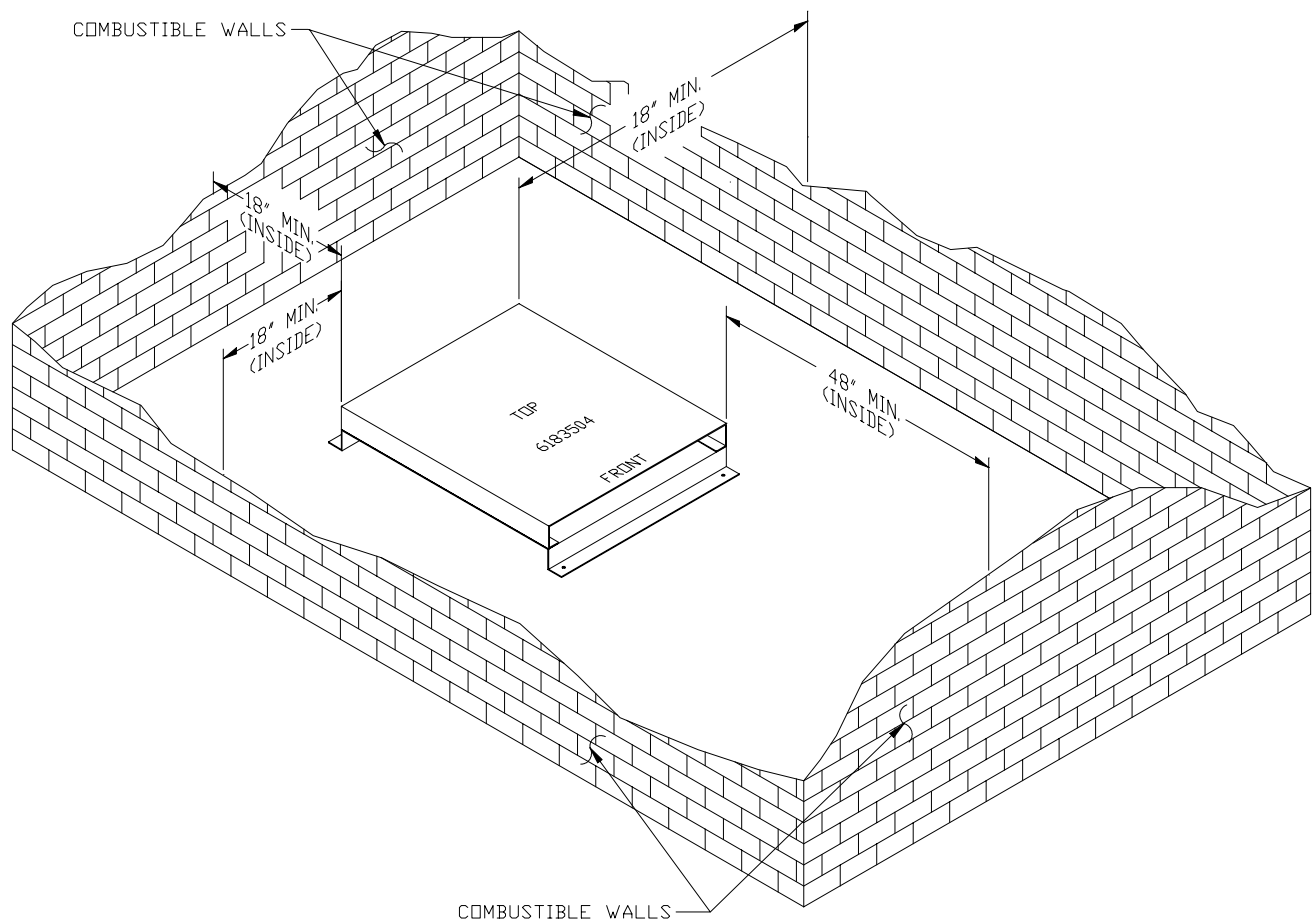

Figure 24
- 2) Locate shield such that clearances to combustible walls are as indicated in Figure 24. These dimensions will assure that the boiler jacket will be at least 18" from the side and rear walls and 48" from the front wall, as required by ANSI/NFPA 31.
- 5) Do not enclose boiler (including shield) on all four sides. Boiler may be enclosed on any three sides while maintaining minimum clearance shown in Figure 24 for each of those three sides.